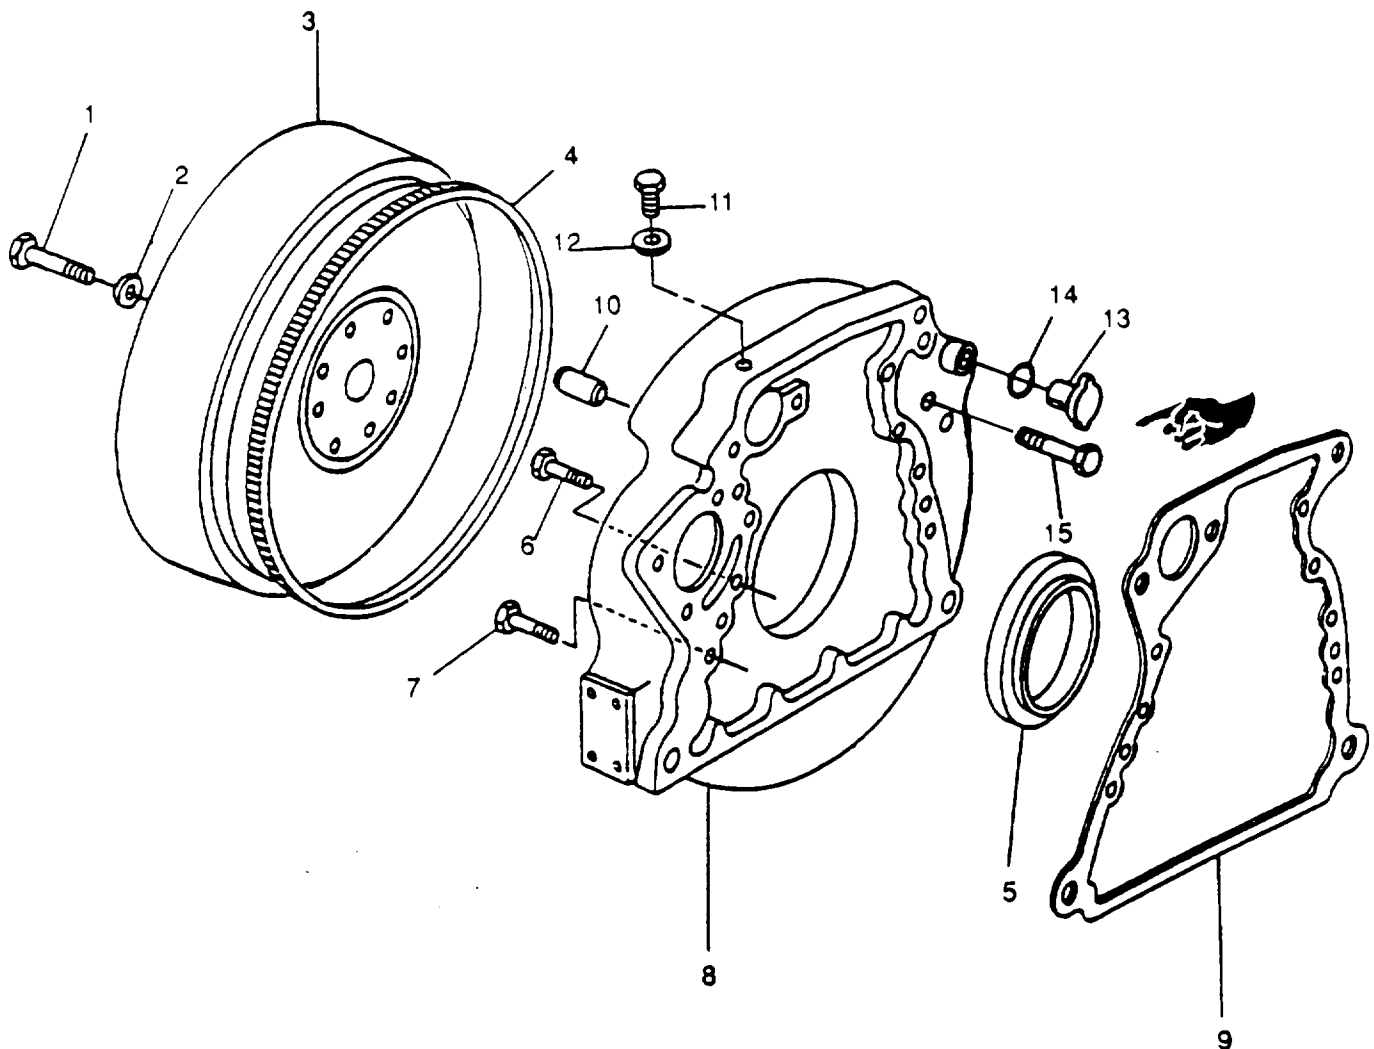

FIGURE 3-125. Flywheel and Housing Assembly
- b. Remove two capscrews (1, FIGURE 3-125) and washers (2). Replace these with two guide studs.
- c. Remove other two capscrews (1) and washers (2). Install these two capscrews in threaded holes of flywheel (3).
- d. Use two capscrews in step b to jack flywheel (3). off crankshaft.
- e. Remove flywheel (3) and two capscrews (1).
- a. If ring gear (4, FIGURE 3-125) is damaged, place the flywheel (3) on a solid flat surface.
- b. Drive ring gear (4) off with a brass drift and hammer.
- a. Apply adhesive (LOCTITE 242) to threads of four new capscrews (1, FIGURE 3-125).
- b. Install two guide studs in crankshaft capscrew threaded holes. Place flywheel (3) on studs and slide into position against crankshaft.
- c. Use a slide hammer/puller and a sheet metal screw to pull seal (5, FIGURE 3-125) from housing. Discard seal.
- b. Remove oil seal/wear sleeve (5, FIGURE 3-125), refer to paragraph 3-36.1.
- c. Support weight of flywheel housing (8) and remove eight 3/8-inch capscrews (6) and four 5/8-inch capscrews (7) securing housing to engine block; remove housing (8) and gasket (9). Discard gasket (9).
- c. Inspect dowel pins (10, FIGURE 3-125) for damage. Replace if damaged.
- d. Remove and inspect bolt (11) and washer (12) for damage. Replace if damaged. Otherwise, install bolt (11) and washer (12).
- e. Remove and inspect plug (13) and performed packing (14) for damage. Replace if damaged. Otherwise, install performed packing (14) and plug (13).
- f. Remove and inspect bolt (15) for damage. Replace if damaged. Otherwise, install bolt (15).
- (1) Attach magnetic base of dial indicator to flywheel end of crankshaft.
- (2) Position dial indicator against ID of seal bore in flywheel housing.
- (3) Turn crankshaft 360 degrees at front of engine, using center bolt on harmonic balancer. Maximum permissible TIR is 0.006 inch (0.152 mm). If run-out exceeds limit, replace flywheel housing.
- a. Install new silicone bead/gasket (9, FIGURE 3-125) on block. Gasket should be a silicone bead.